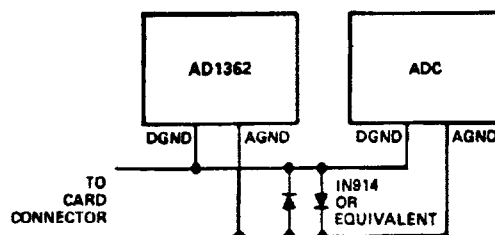

Figure 4. Ground-Fault Protection Diodes
**Grounding:** Analog and digital signal grounds should be kept separate where possible to prevent digital signals from flowing in the analog ground circuit and inducing spurious analog signal noise. Analog Ground and Digital Ground are not connected internally; these pins must be connected externally for the system to operate properly. Preferably, this connection is made at only one point, as close to the AD1362 as possible. The case is connected internally to Digital Ground to provide good electrostatic shielding. If the grounds are not tied common on the same card with the AD1362, the digital and analog grounds should be connected locally with back-to-back general-purpose diodes as shown in Figure 4. This will protect the AD1362 from possible damage caused by voltages in excess of  $\pm 1$  volt between the ground systems which could occur if the key grounding card should be removed from the overall system. The device will operate properly with as much as  $\pm 200\text{mV}$  between grounds; however, this difference will be reflected directly as an input offset voltage.